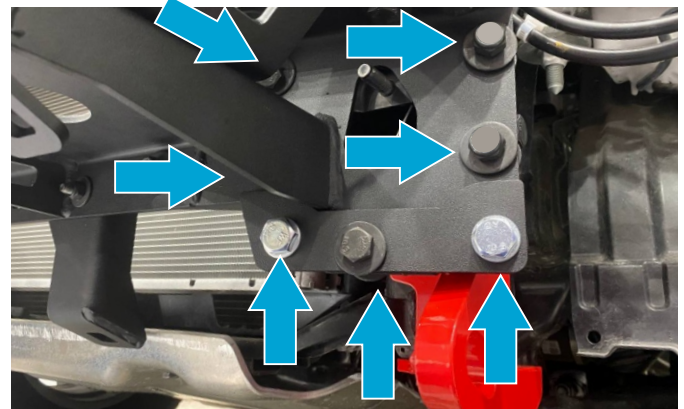

Fig.46
43. Tighten the hardware shown in Fig.46.